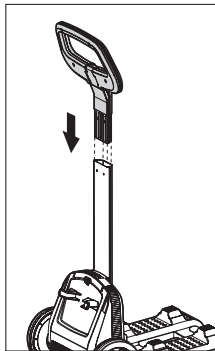

FIGURE 11
1. Insert the handle into the handle support. See **Figure 11**.